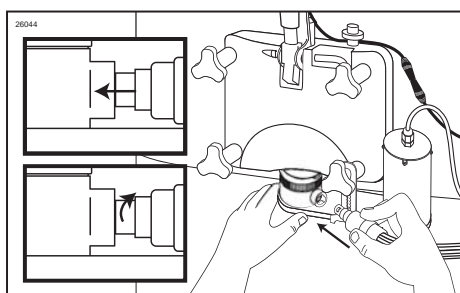

Figure 19
4. Insert the Syrup Line Manifold end fully into the Injector Head syrup line opening. Rotate it until motion stops to secure. (See Figure 19.)